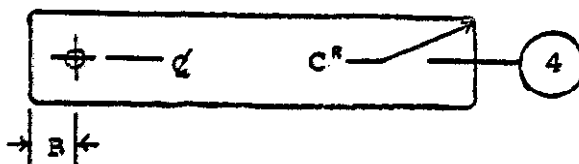

FIGURE 3
- D. In the same way, the two blocks are clamped together. A hole 2-1/4 inches in diameter is bored horizontally, and three 1/4-inch holes are drilled vertically, as shown. The top center hole also requires a 1/2-inch counterbore, (1/4-inch deep) in the top block, to admit a locknut. A 6-inch strap iron is also drilled with three 1/4-inch holes to match the holes in the blocks. (See Figure 3 on page 5).